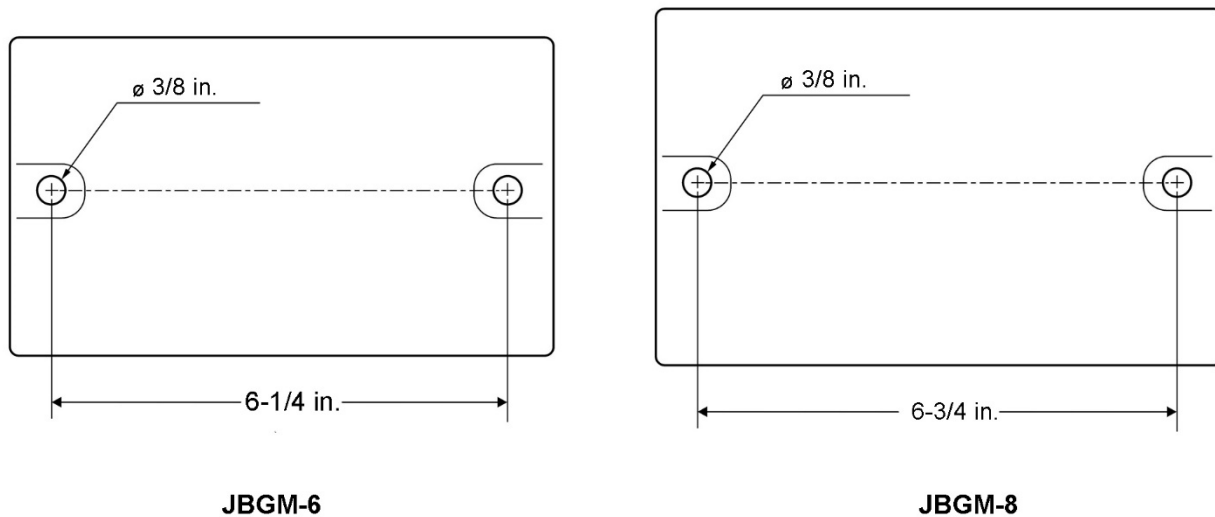

Figure 4-1: hole centers
1. Align the mounting holes on the grinder with predrilled holes in a bench or grinder stand. Figure 4-1 shows hole centers for mounting.